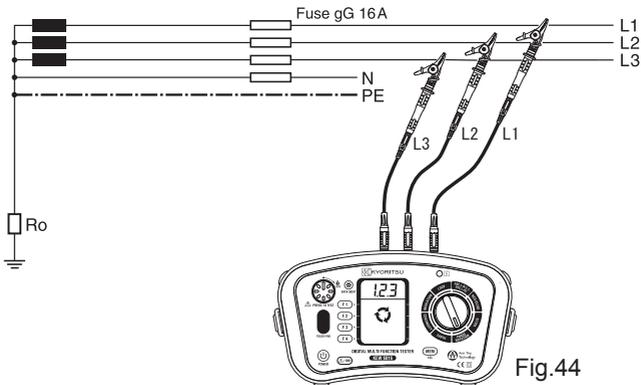

Fig.44
3. Connect each test leads to a circuit. (Fig.44)